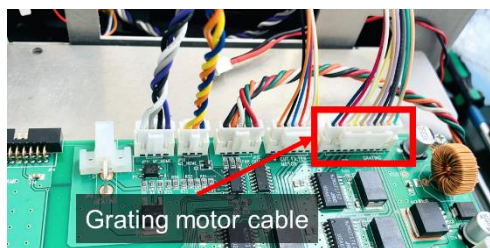

Figure 11. Location of the grating motor cable
- c. Disconnect the grating motor cable (see Figure 11).